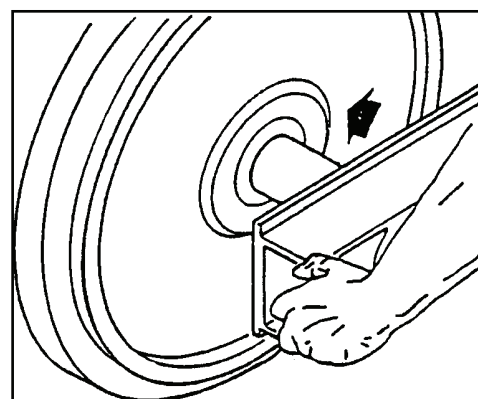

Fig. 3-54 Idler Wheel - install onto shaft
5. Install the idler wheel onto the shaft (fig. 3-54).